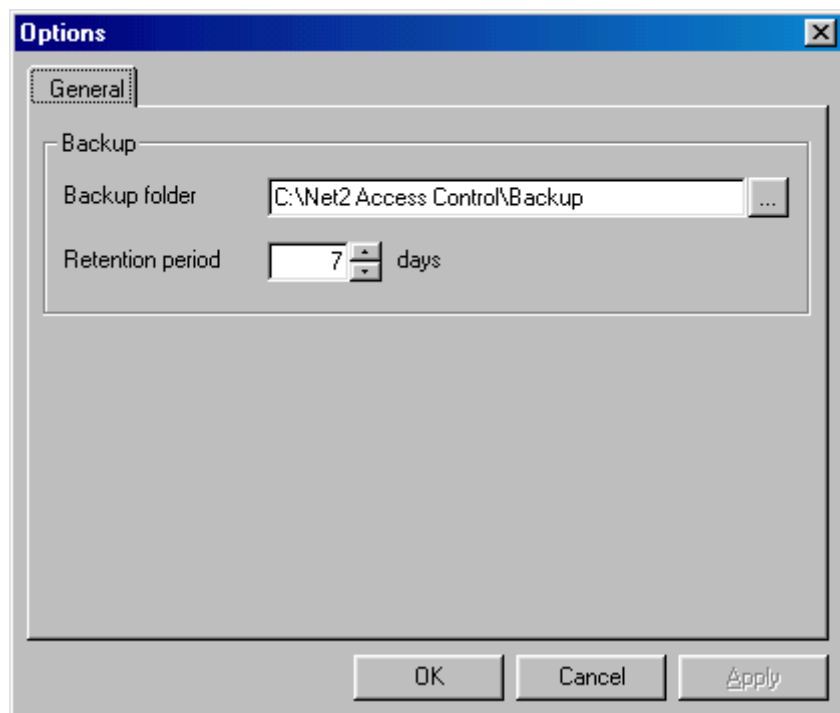

Figure 4.27
2. Press ... and browse to the desired location for the backup files, see figure 4.27.